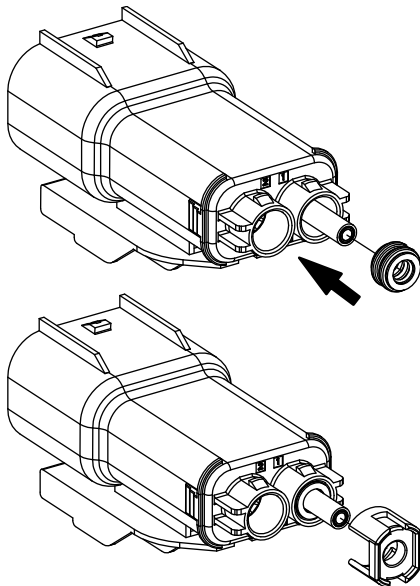

Figure 19
3. Slide the cable seal along the cable end and push it into the cavity until it is flush with the back of the terminal cavity as shown in Figure 19.